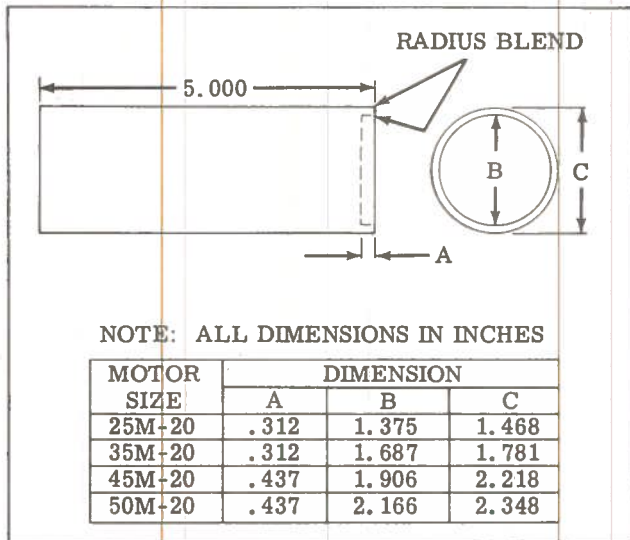

Figure 7
Special tools required for these units are shaft seal drivers and adapter extractor tool. The seal drivers can be made from round stock machined as shown in figure 7.
1. Shaft Seal Assembly - Install the shaft wiper in the body. Grease the shaft seal and press it into the body with the seal driver (figure 7). The spring on the shaft seal must be toward the bearing. Place the washer in the body against the shaft seal.